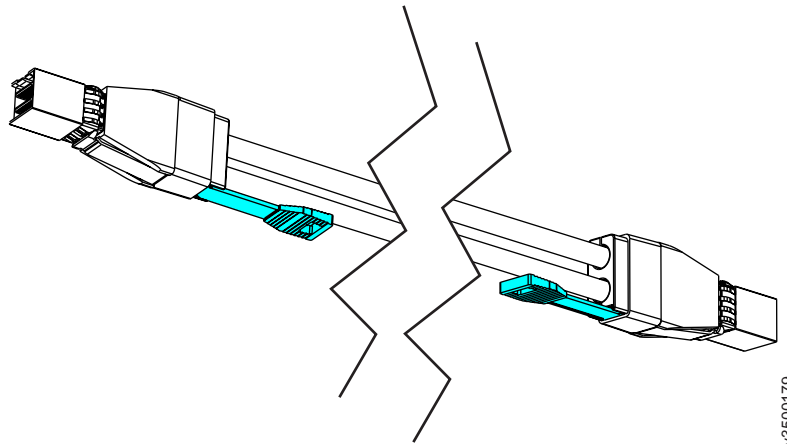

Figure 32. Mini SAS HD to Mini SAS HD cable
- Mini SAS HD to Mini SAS HD (Figure 32)